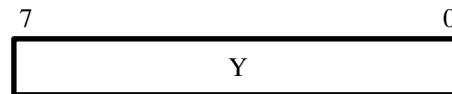

Figure 21. YCrCb 4:0:0 Color Space.
- YCrCb 4:0:0 — This format only as the Y component as shown in Figure 21. This format is equivalent to 8-Bit Grayscale RGB color space. This mode is defined as 8 bits per symbol and one symbol per beat.